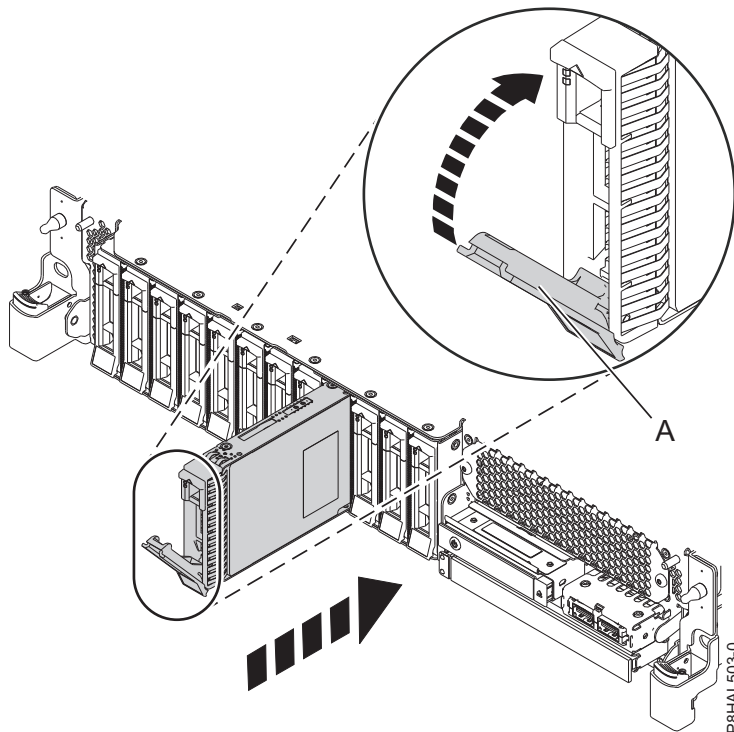
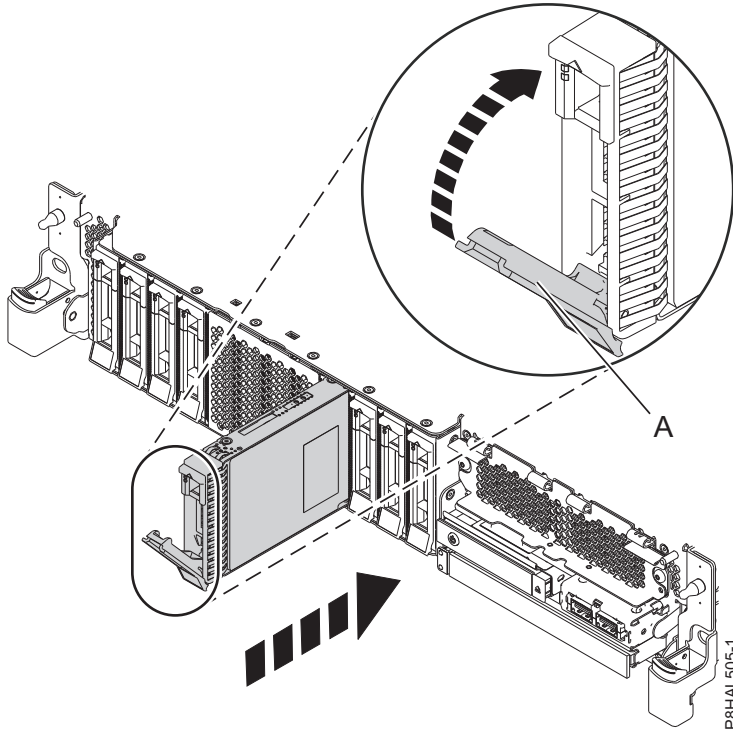

Figure 44. Replacing a disk drive in a base function system
Figure 45. Replacing a disk drive in an expanded function system
3. Unlock the drive bay handle (A) by pressing it and pulling it out toward you. If the handle is not all the way out, the drive does not slide into the system. See Figure 44 and Figure 45 on page 46.
5. Slide the drive all the way into the system, and push the drive bay handle (A) in until it locks, as shown in Figure 44 and Figure 45 on page 46.